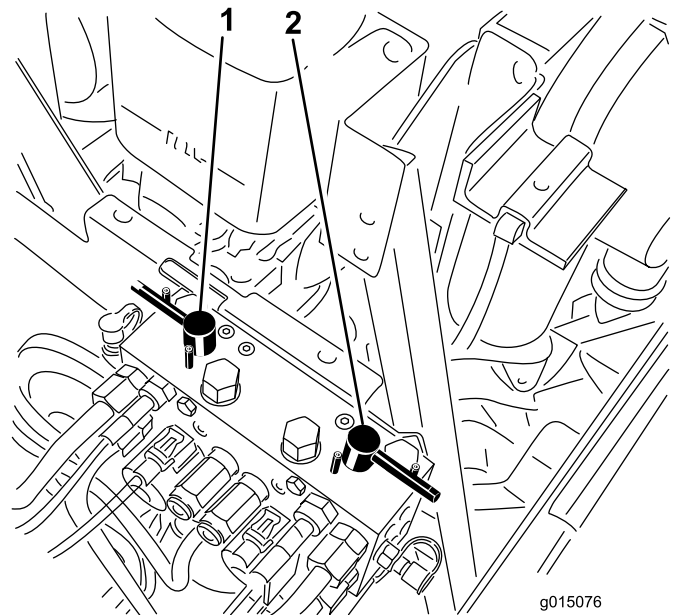

Figure 83
4. Select either front, rear, or both backlap levers to determine which units to backlap (Figure 83).